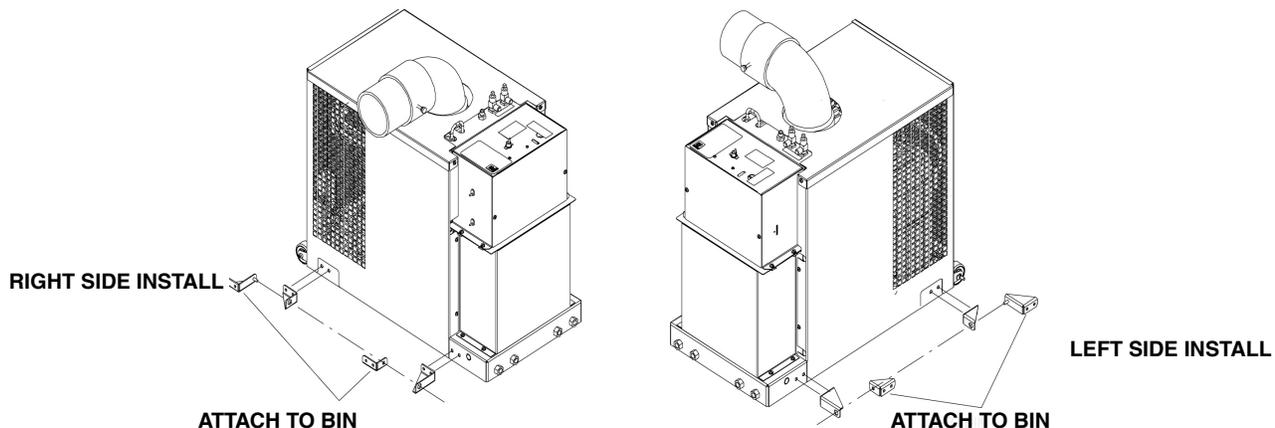

Figure 2. Side Bracket Installation
- B. Install the ice maker alignment brackets (*Supplied with icemaker*) to the dispenser (See Figure 2.)
- A. Install the icemaker alignment brackets (*Supplied with icemaker*) to the icemaker (See Figure 2.)